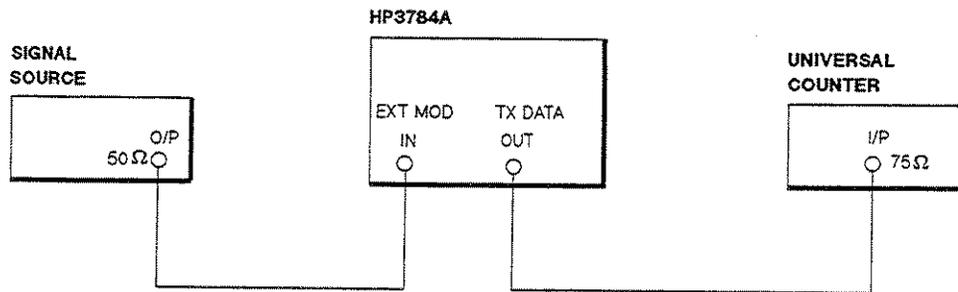

Figure 8-7 Alternating Word Test Set-up
1. Connect the equipment as shown in Figure 8-7.